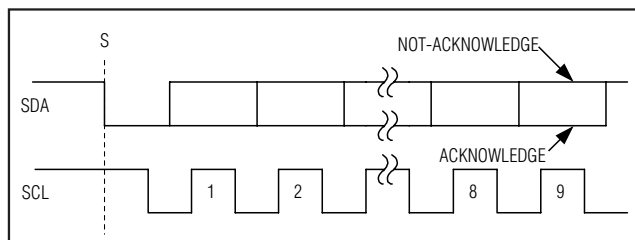

Figure 6. Acknowledge Bits
Data transfers are acknowledged with an acknowledge bit (A) or a not-acknowledge bit ( $\bar{A}$ ). Both the master and the MAX11644/MAX11645 (slave) generate acknowledge bits. To generate an acknowledge, the receiving device must pull SDA low before the rising edge of the acknowledge-related clock pulse (ninth pulse) and keep it low during the high period of the clock pulse (Figure 6). To generate a not-acknowledge, the receiver allows SDA to be pulled high before the rising edge of the acknowledge-related clock pulse and leaves SDA high during the high period of the clock pulse. Monitoring the acknowledge bits allows for detection of unsuccessful data transfers. An unsuccessful data transfer happens if a receiving device is busy or if a system fault has occurred. In the event of an unsuccessful data transfer, the bus master should reattempt communication at a later time.